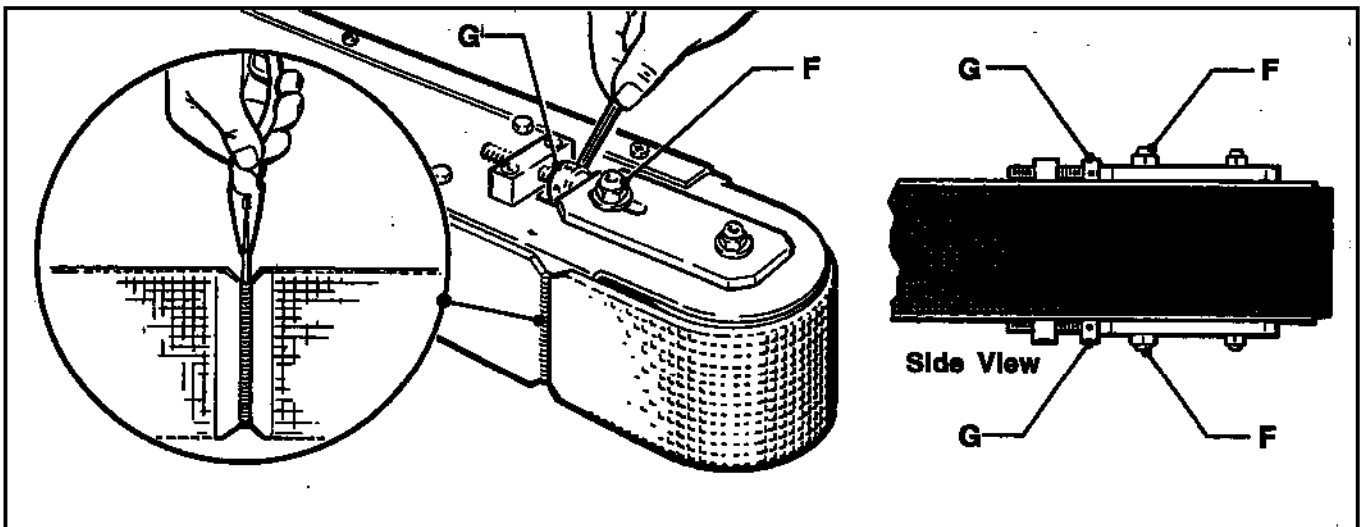

Figure 4-5 – Box Drive Belt, Lower
- Loosen, but do not remove the lock nut (F) on both upper and lower belt tension assemblies. See Figure 4-5.
- Turn belt adjustment screws (G) clockwise on both the upper and lower tension assemblies to loosen belt.
- Install new drive belt around drive rollers and install pin as shown in Figure 4-5. Pin must not extend beyond edge of belt.